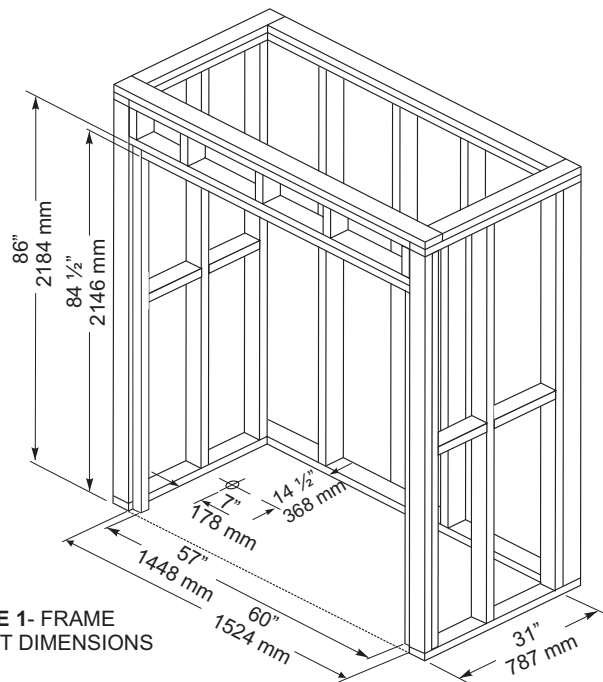
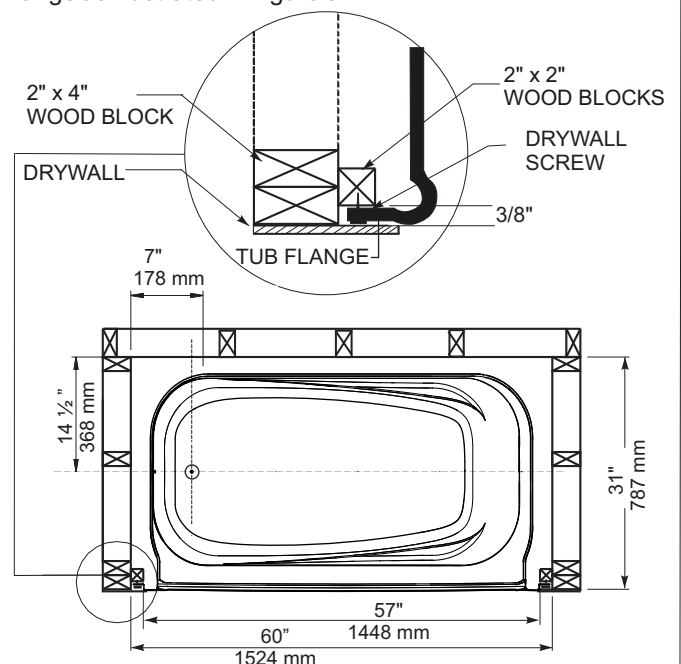

FIGURE 1 - FRAME LAYOUT DIMENSIONS
FIGURE 2 - BATHTUB DIMENSIONS
- The Tub Shower is to fit into the framed alcove as shown in Figure 1 and Figure 2.
- Inside dimension of the studded alcove are to be as specified in Figure 1.
- Follow Figure 2 as specified to ensure width is 57" between the 2" x 2" recessed studs. (See enlarged detail.)
- Build solid framing to the dimensions in Figure 1.